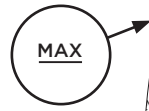

Fig.3
- ◆ Switch the appliance on (On/off) (L) , setting the temperature and steam control (E) to the position that corresponds to the desired temperature. (Fig.3)